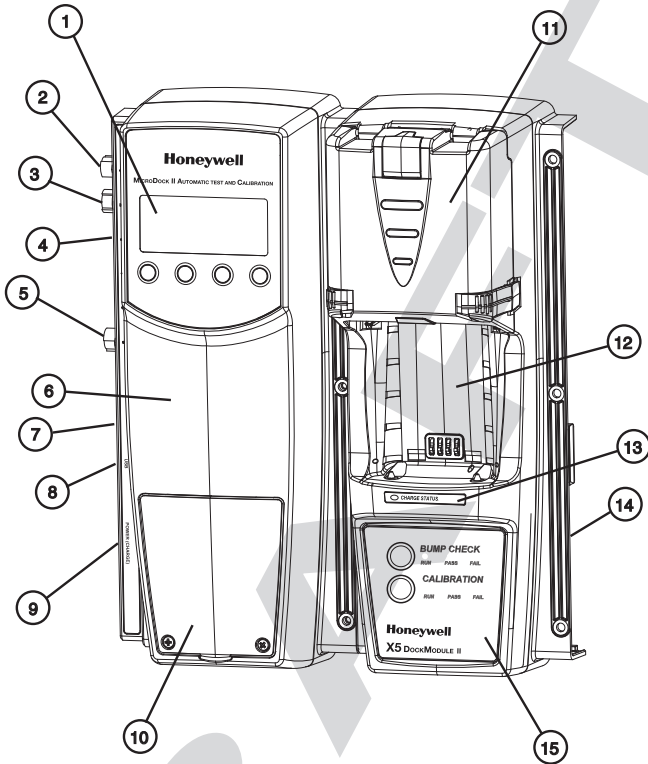

Figure 2. The MicroDock II Docking Module
- Figure 2 and Table 2 The MicroDock II (describes the station)